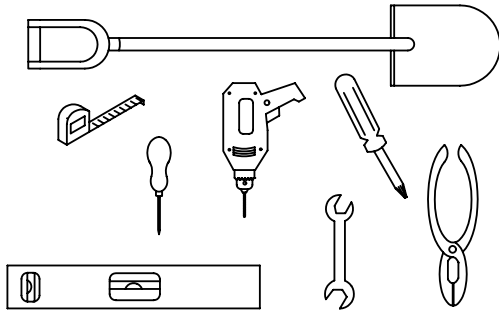

FIG. 1
1. **WEATHER WARNING ! DO NOT ERECT YOUR BUILDING ON A WINDY DAY. ANY BUILDING LEFT PARTIALLY CONSTRUCTED MAY BE SERIOUSLY DAMAGED (Fig.1).**
3. **ALL ASSEMBLY OPERATIONS MUST TAKE PLACE ON A COMPLETELY LEVEL SURFACE (Fig. 1)**
(FIG. 1).
3. **TOUTES LES OPÉRATIONS DE MONTAGE DOIVENT ÊTRE RÉALISÉES SUR UNE SURFACE PLANE (fig 1).**